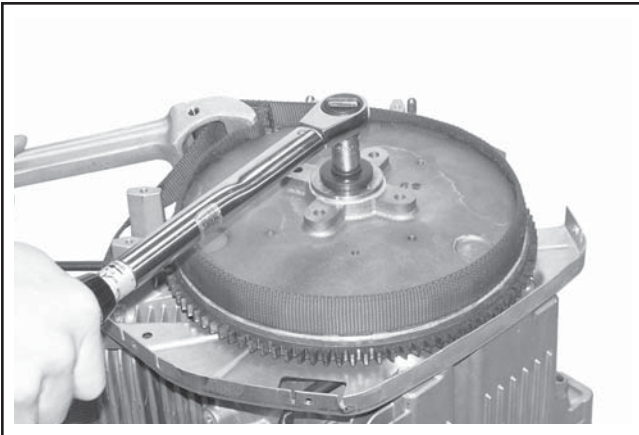

Figure 10-22. Installing and Torquing Flywheel Fastener.
4. Use a flywheel strap wrench or holding tool to hold the flywheel. Torque the hex flange screw securing the flywheel to the crankshaft to **71.6 N·m (52.8 ft. lb.)**. See Figure 10-22.